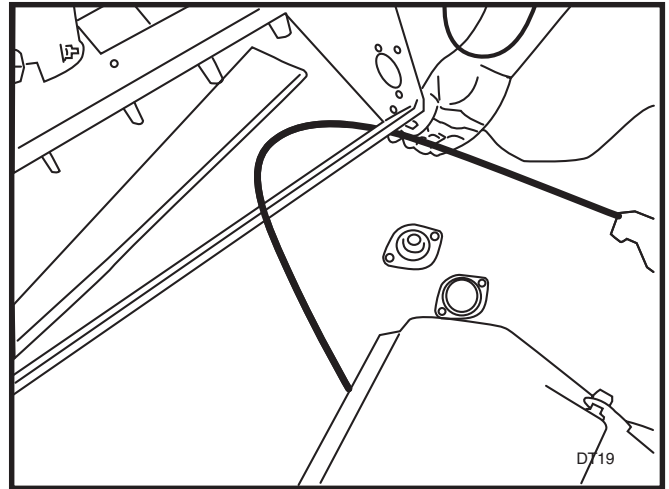

FIGURE 1
3. Remove the two (2) retaining rings on the rear wheel (they are not reusable, new rings are provided in the kit). Remove wheel from rear axle. (Some units use a cotter pin instead of retaining rings.)
4. Loosen one (1) set screw on the locking collar. Using a punch loosen the locking collar on the rear axle. Repeat on the on the other side of the unit.
8. Route the cable from the seed gate between the bottom of the frame and the top of the rubber flap. See Figure 1.